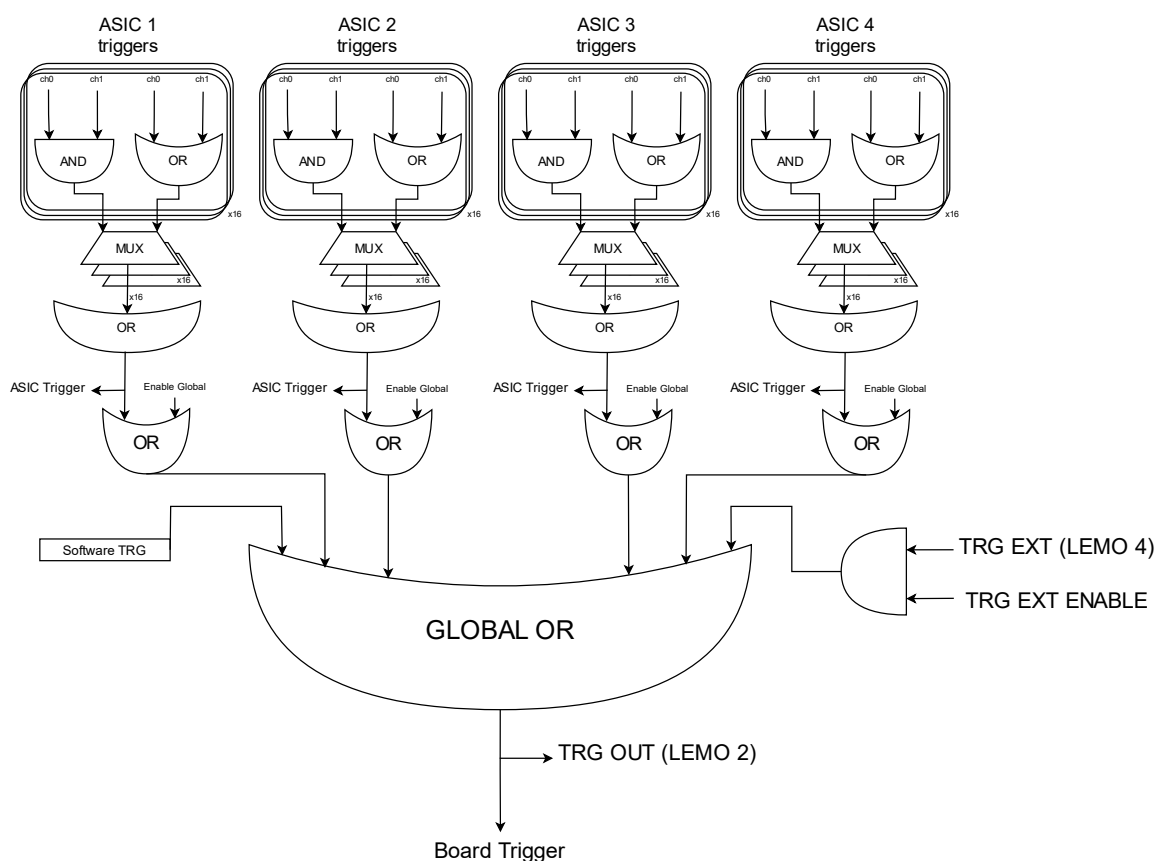

Figure 11.10: scheme of the triggering logic set in the default firmware loaded on DT5550W for A55CITx management.
The default trigger logic is implemented in the FPGA firmware of the DT5550W, as shown in **Figure 11.10**. It is possible to set each ASIC to trigger independently using time/charge triggers, or use a global board trigger that is the OR of all the possible triggers (internal, software, external, etc.).
- Configuration of the triggering logic as per the scheme in **Figure 11.10**: